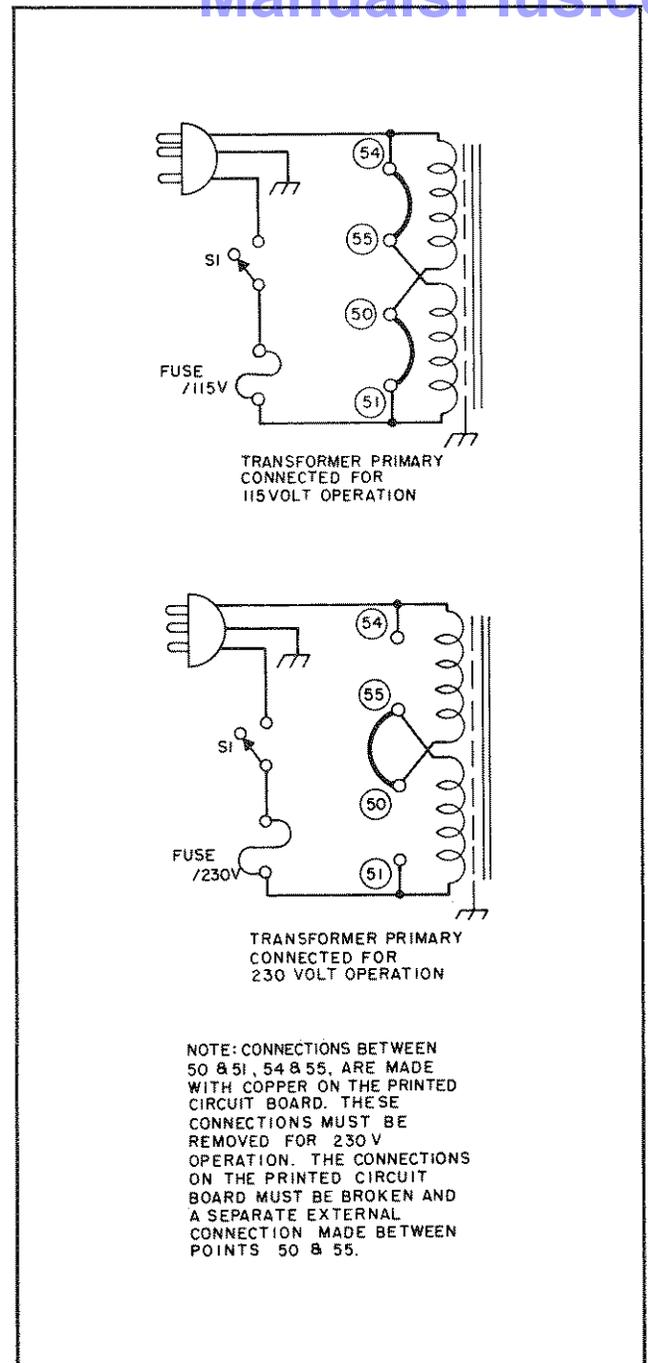

Figure 2-4. Primary Connections
- b. Break the copper between 54 and 55 and also between 50 and 51 on the printed circuit board. These are shown in Figure 2-4, and are labeled on copper side of printed circuit board.